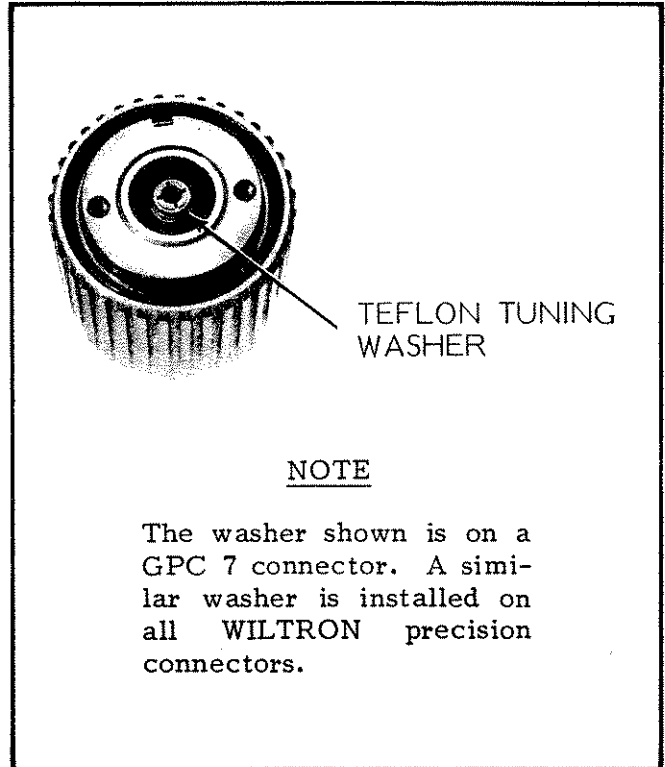

Figure 1-5. Teflon Tuning Washer on GPC 7 Connector
- d. Do Not Disturb Teflon Tuning Washers on Connector Center Pins. The center conductor on most bridge and SWR Autotester test port connectors contains a small teflon tuning washer located near the point of mating (interface). This washer (Figure 1-5) compensates for minor impedance discontinuities at the interface. The washer's location is critical to the bridge or SWR Autotester performance, DO NOT DISTURB.